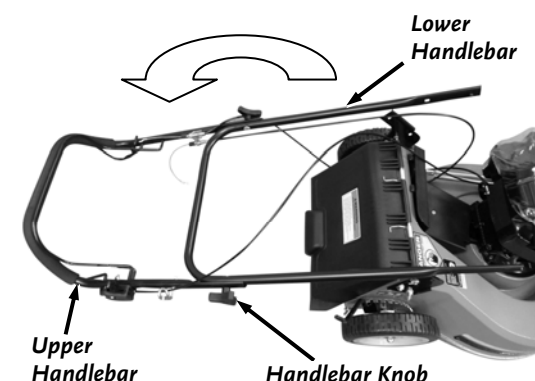

Figure 3
1. Loosen the Handlebar Knobs and unfold the Upper and Lower Handlebars (**Figure 3**). Tighten the Handlebar Knobs.